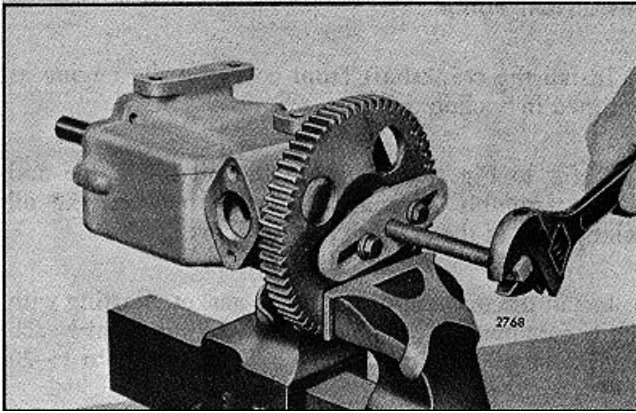

FIG. 4 - Removing Oil Pump Drive-Driven Gear
4. Attach the puller J 24420 to two 5/16" -24 tapped holes provided in the gear. Then turn the puller screw clockwise to withdraw the gear from the pump drive shaft as shown in Fig. 4.